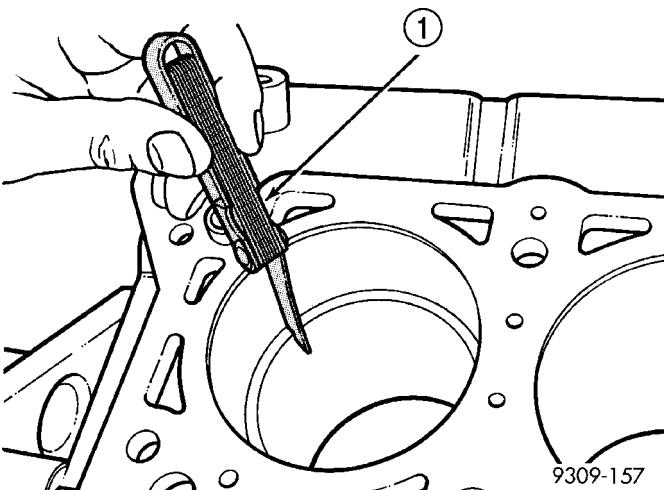

Fig. 69 Piston Ring Gap
(1) Wipe cylinder bore clean. Insert ring and push down with piston to ensure it is square in bore. The ring gap measurement must be made with the ring positioning at least 12 mm (0.50 inch) from bottom of cylinder bore. Check gap with feeler gauge (Fig. 69). Refer to Engine Specifications.